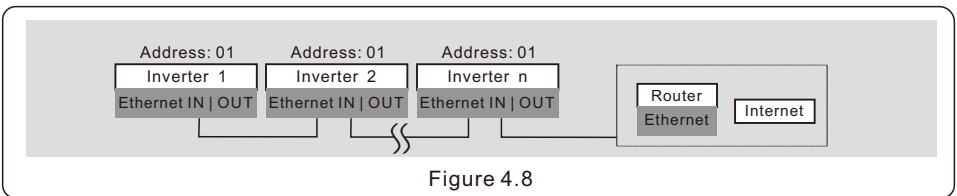

Figure 4.8
Connect in daisy chain configuration see Figure 4.8. Use the SN/QR code on the board to register the system on Solis monitoring website or APP. See APP for details.
4. Connect inverters in daisy chain configuration see Figure 4.8. An IP address will be assigned by the DHCP server. Refer to router configuration pages to find assigned IP address.